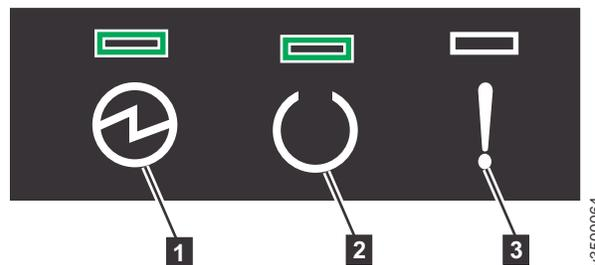

Figure 39. Expansion canister LEDs
2. From the rear of the expansion enclosure, check the LEDs on each expansion canister (see Figure 39).